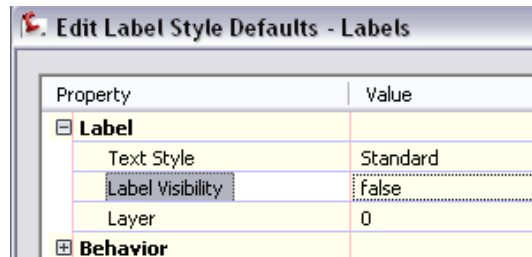

Figure 3: Turning off label visibility for a feature
- 3 In the Edit Label Style Defaults dialog box, set label visibility to false, as shown in figure 3.